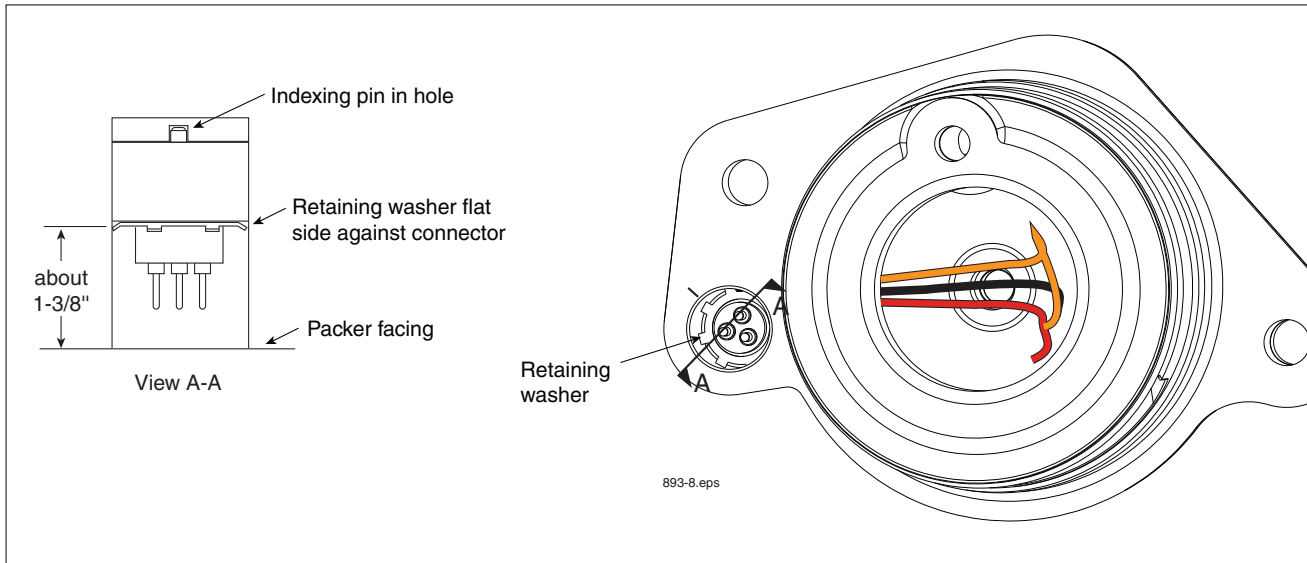

Figure 44. Correct Depth Of Male Connector In Packer Socket
18. Thread the wires of the new male connector down into the socket and out through the opening in the base of the socket into the packer wiring compartment. Gently pull the wires into the wiring compartment as you align the masking tape mark on the connector with the felt tip mark on the packer facing. When you have pushed the connector all the way into its socket it should not rotate if the indexing pin is in the index hole. Using the small ruler, measure the distance from the packer facing down to the connector, it should be a little more than 1-3/8" (see Figure 44). Hold the wires tight to keep the connector in position and insert a new retaining washer (with upturned teeth facing out) forcing it down until it is firmly against the connector. Recheck the 1-3/8" measurement after installing the retaining washer to confirm that the connector is at the proper depth.
17. Apply an adequate amount of fresh, UL classified for petroleum, non-setting thread sealant to the threads of the electronic line leak detector and install it into the 2" NPT port and torque to 110 ft-lbs (150 N•m) as shown in Figure 44.